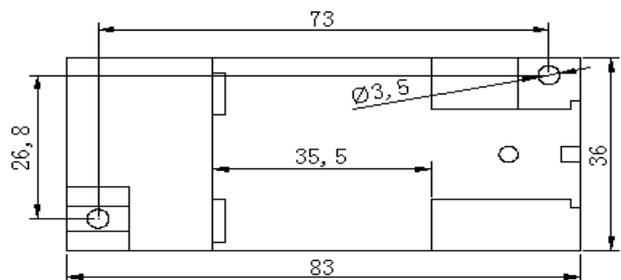

Figure 4, BS3 style installation dimension
- ③ Clip the transducer mount on the mounting rail;
- ④ Release the spring pin and clip the transmitter on the mounting rail.
- ①M3 screw hole in the fixed plate according to the screw hole position shown in Figure 4;
- ②Use the M3 screw to insert into hole and fix it.
8.1 According to the transducer terminal definition to connect the circuit according to the figure 4: